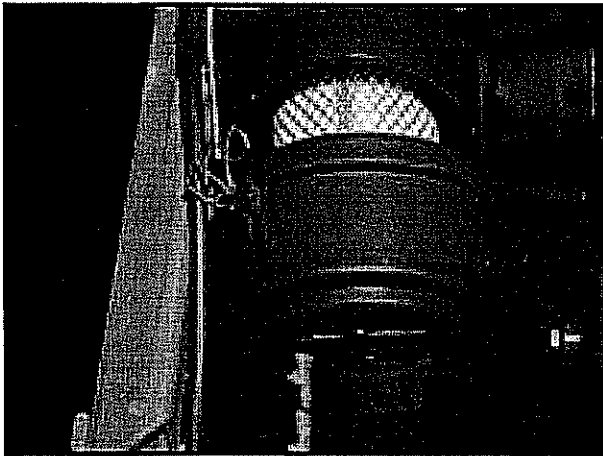

Figure 31 Air Filter Cartridge
1. Release both canister tab lock (Figure 31).